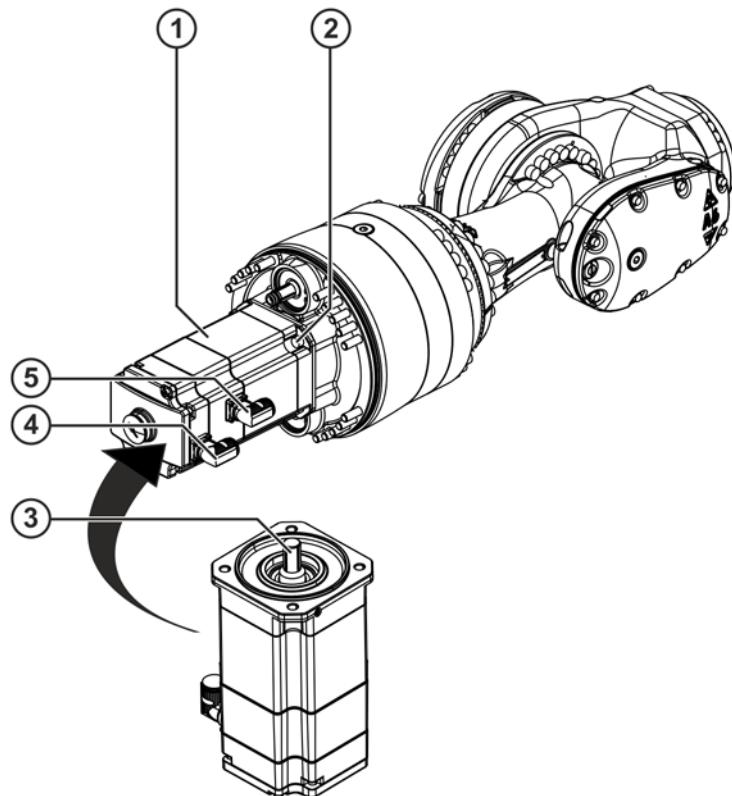

Fig. 11-18: Installing motor A6
2. Clean the toothed belt on motor A6 and in the gear unit of the in-line wrist before installation and apply a thin but continuous coat of Microlube GL 261 grease (**>>>** Fig. 11-18).